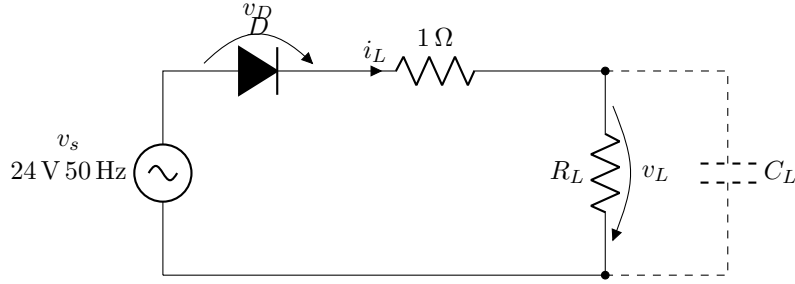

Figure 1: Half-wave rectifier. C_L (dashed) is connected only for the R–C load. The voltage across the $1\ \Omega$ resistor gives the current waveform.
2. Connect D , the $1\ \Omega$ resistor and $R_L = 500\ \Omega$ as in Fig. 1.